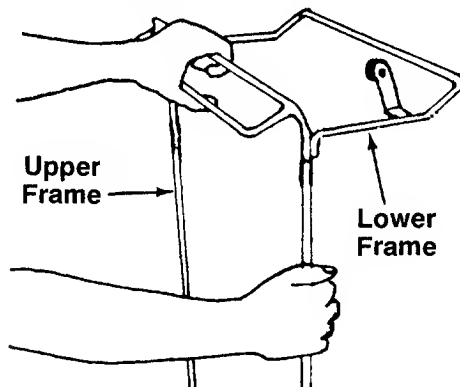

FIGURE 11.
2. Join the upper frame and lower frame assembly as shown in figure 11.